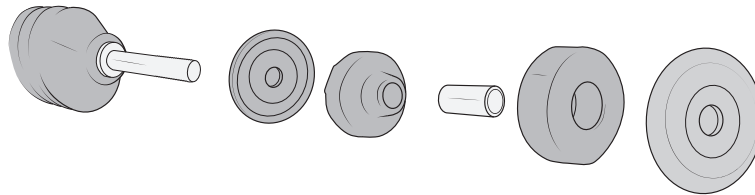

Figure 13
7. Assemble the shock bushings as shown (fig. 13) then install AEV shocks. Torque the lower bolt to **136 lb-ft**